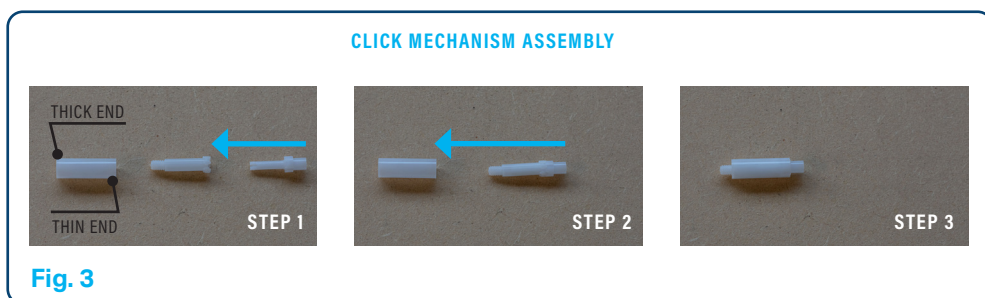

Fig. 3
1. Assemble click mechanism as shown in figure 3.